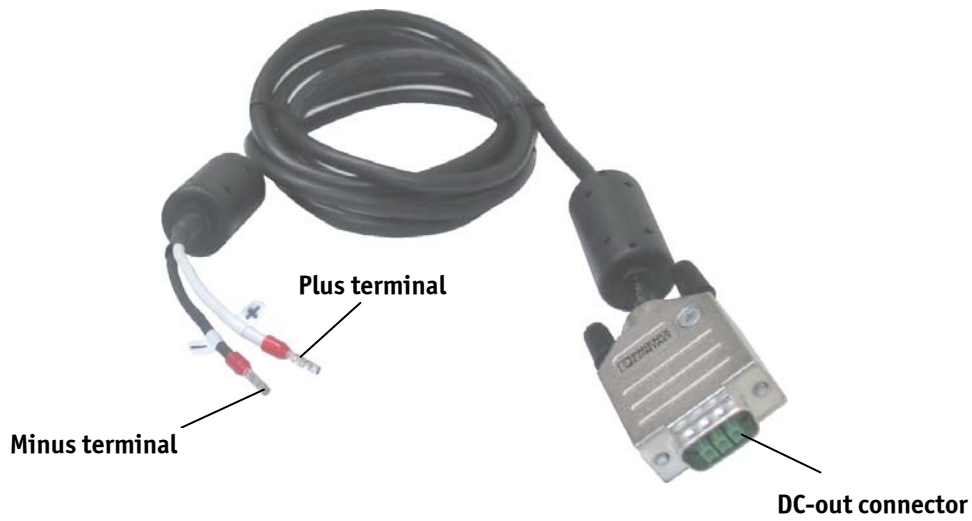

Fig. 20: DC power cord
3. Connect the other end of the DC power cord to the connections of the 24V DC main power supply. Pay attention to the polarity of the connections. The wires of the DC power cord are marked plus (+) and minus (-) (see Fig. 20).